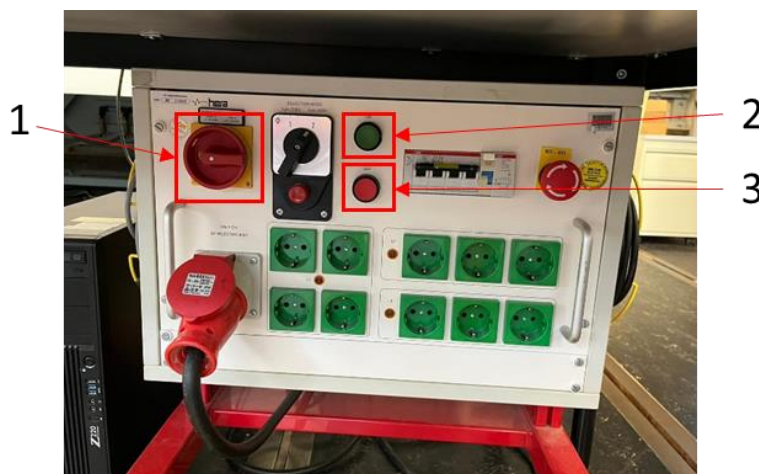

Figure 2 – Power switch Arizona
ALWAYS MAKE SURE THE POWER SWITCH (Figure 2) IS TURNED OFF WHEN BUILDING!
5. When the prompt "Confirm that the Arizona power switch is on!" is shown, turn switch (1) and press button (2), as shown in Figure 2.
- "No": The Simulink run will be stopped. Make sure to turn off the power to the Arizona again by pressing button (3) and turning switch (1) in Figure 2. If starting a new experiment redo the procedure.